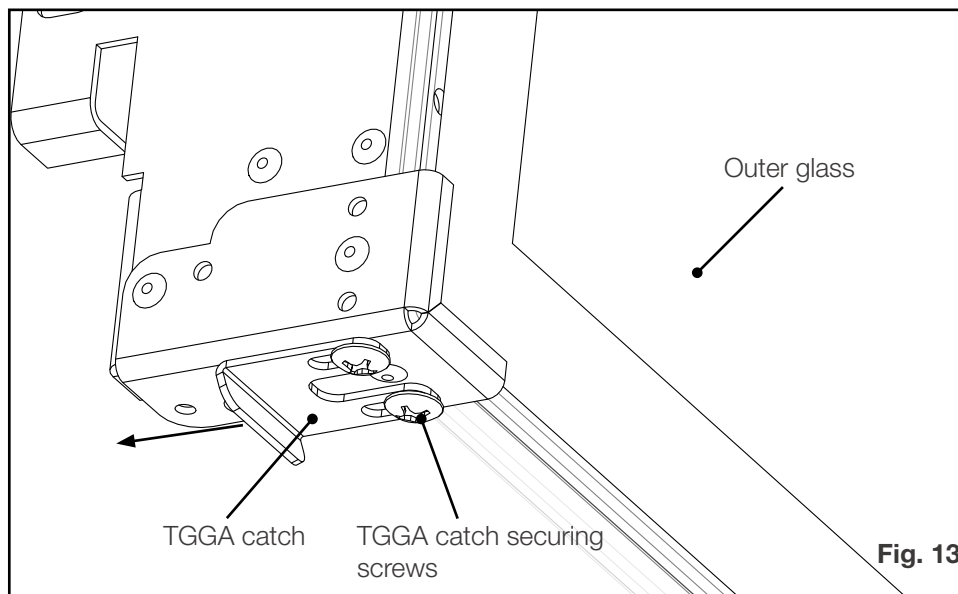

Fig. 13
- The TGGA catches should be installed toward the appliance. It may be necessary to loosen the TGGA catch securing screws on the bottom of both sides of the TGGA and slide them all the way towards the back of the TGGA. Retighten securing screws (**Fig. 13**).